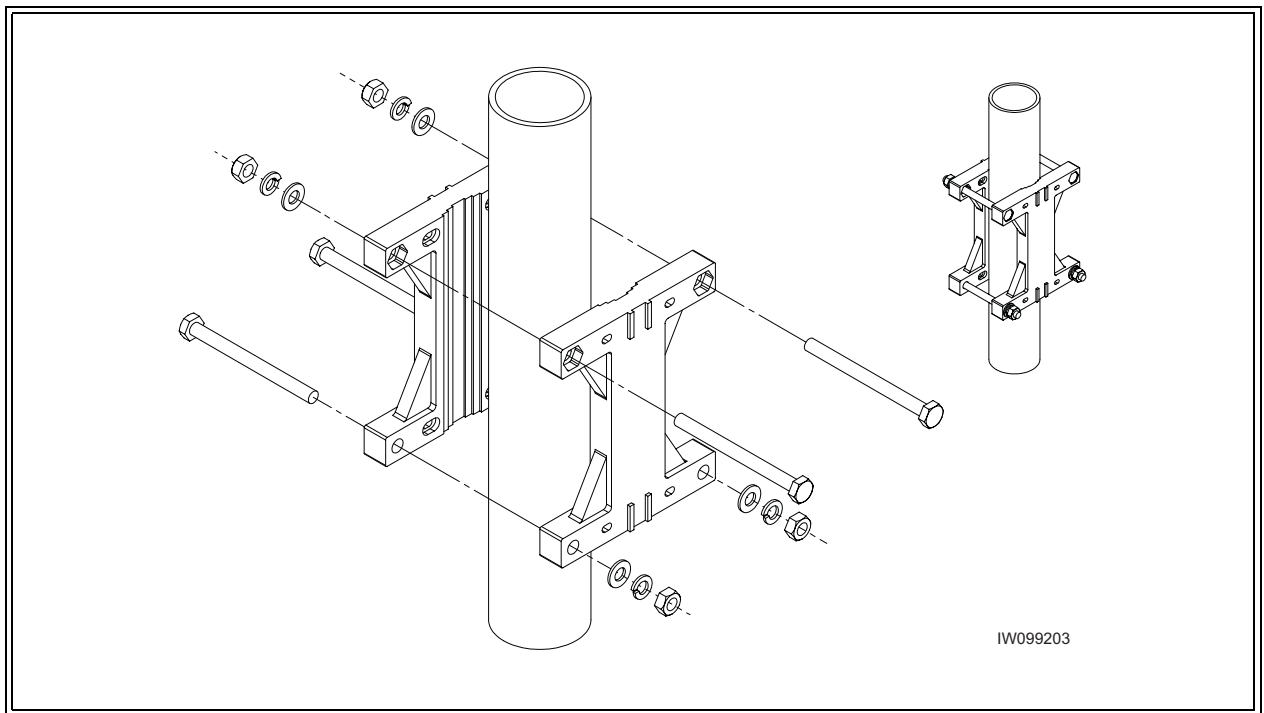

Figure 4-9 Adjustable Elevation Dual Link CX Pole Mount Bracket Assembly
- A Assemble the pole mount brackets and associated nuts, bolts, and washers on the pole as shown in Figure 4-9. Finger tighten the four nuts. The pole mount bracket assembly should be able to pivot around the pole, allowing coarse horizontal alignment.